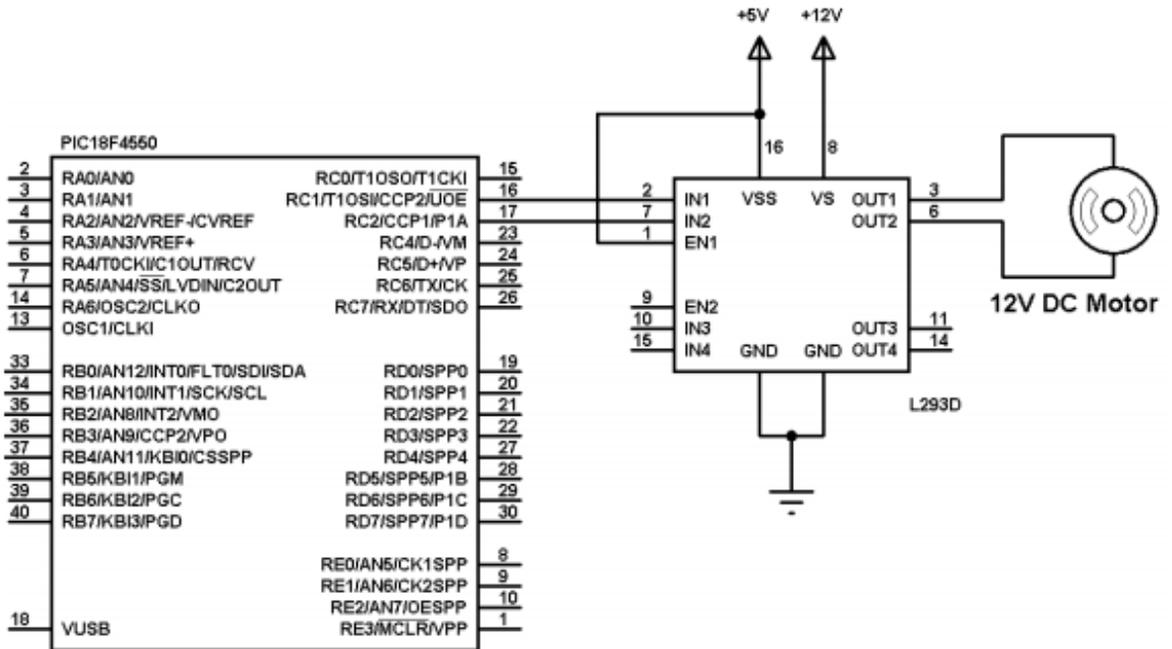

Figure 4.12: Common setup for motor load using PWM modules
- PWM (Pulse Width Modulation)** is a signal that gives a load a variable pulse width. Figure 4.12 below is a typical example of how the PWM module is used for motor control. The L293D chip here is a motor driver.